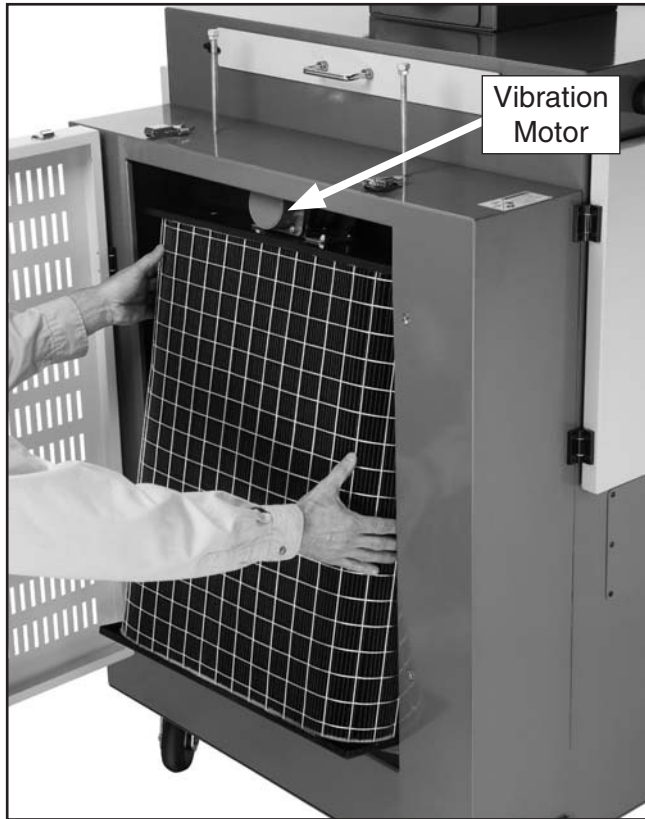

Figure 37. Vibrating filter removal.
8. Unplug the vibration motor, lift the vibrating filter upward and pull the bottom outward (**Figure 37**). Place the unit on the floor.